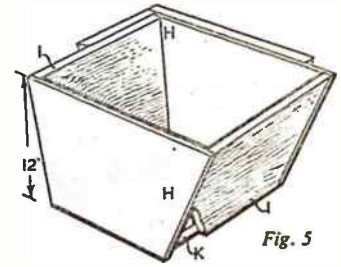

Fig. 5
The box is made from hardboard and 1/2in. wood as shown in Fig. 5. First cut the sides (H) from 1/2in. hardboard, 12ins. deep by 23ins. wide at the top and 18ins.
wide at the bottom. Now cut the ends (I) and the bottom (K) from 1/2in. wood. The total width must be slightly less than 17ins. Finish off by pinning lin. by 1/2in. strip round the top (Fig. 5). This strip will form a handle for lifting. Finally fix the two pieces (D) in position.
For those with an artistic bent, make a design on the surface of your path whilst it is still semi-dry. A pleasing pattern is shown in Fig. 5, and is done quite easily with a nail point and ruler.